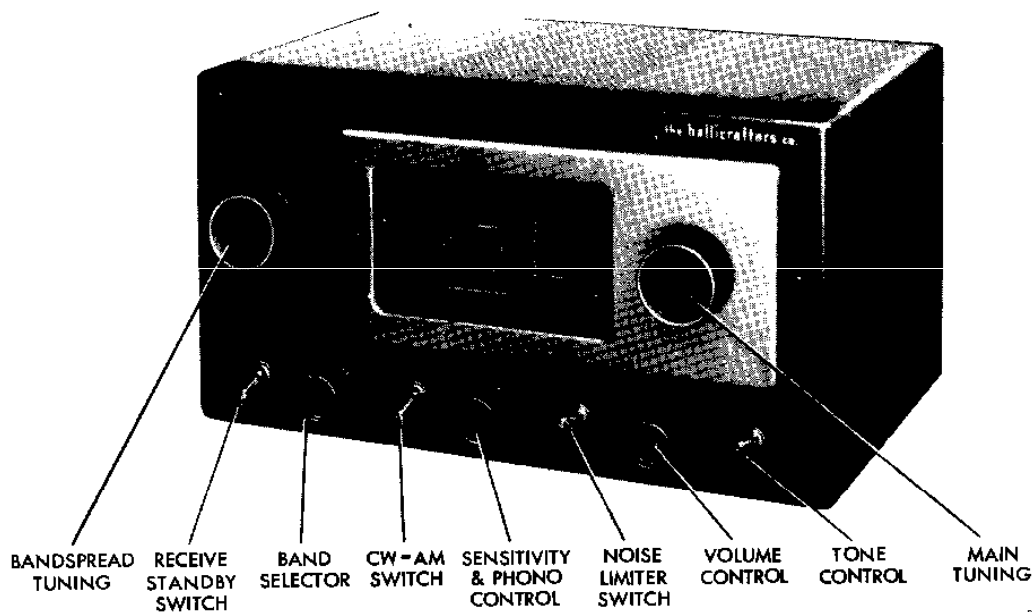

Fig. 1. Models S-53A and S-53AU
7. **TUNING OF BANDS A, B, C, D** - Set the **BANDSPREAD** dial pointer at 100. Tune in the desired station with the **TUNING** control (Fig. 1). For code (CW) reception, adjust the **TUNING** control for the desired pitch of the code signal when tuning.